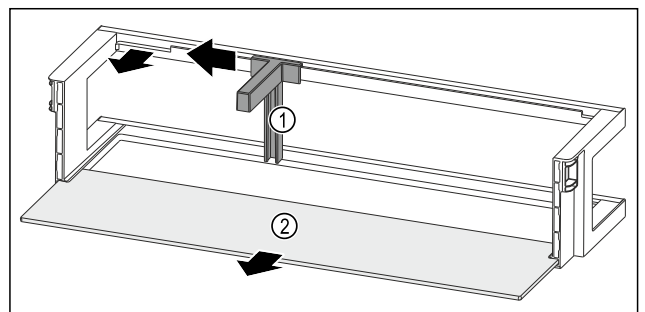

Fig. 122 Door rack with bottle holder and shelf
- Slide the bottle holder Fig. 122 (1) to the side as far as the recess.
- Remove the bottle holder Fig. 122 (1).
- Remove the shelf Fig. 122 (2).